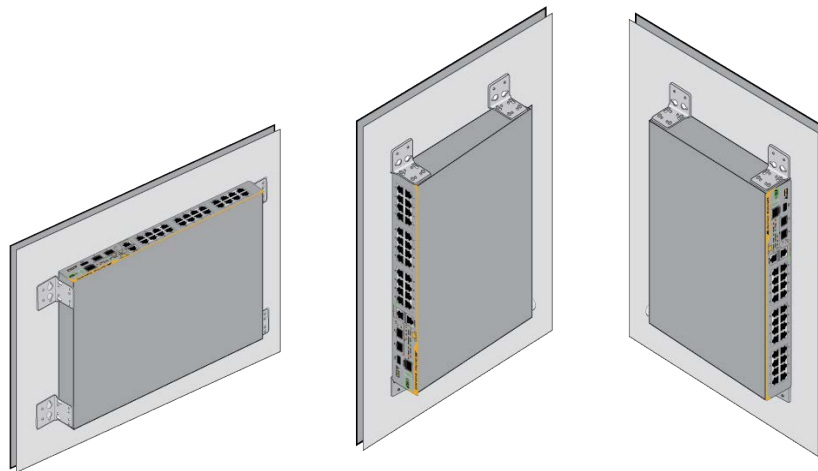
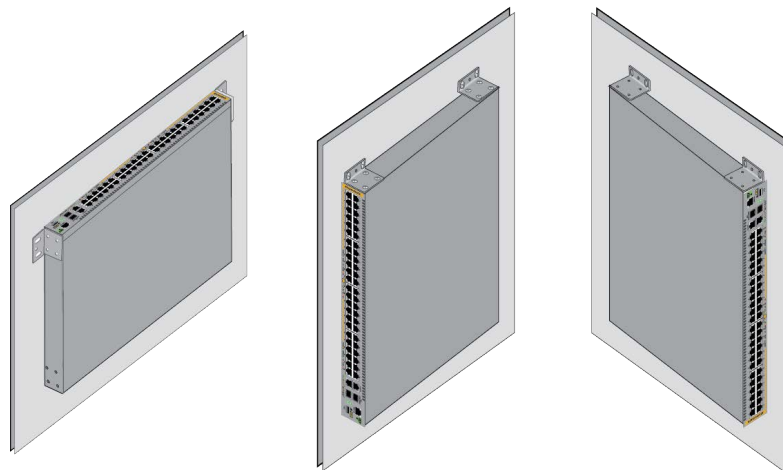

Figure 50. x330-20GTX and x330-28GTX Switches on a Wall
Figure 51. x330-52GTX Switch on a Wall
- ❑ You can install the switches on walls with the front panels facing up, left or right. Refer to Figure 50 and Figure 51.